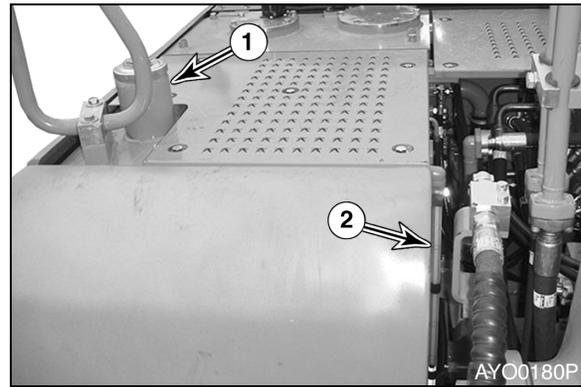

Figure 18
1. At end of each work day, fill fuel tank. Add fuel through fuel filler tube (1, Figure 18). When working at a temperature of 0°C (32°F) or higher, use ASTM No. 2-D or its equivalent. At temperatures below 0°C (32°F) use ASTM No. 1-D or its equivalent.
3. Check the amount of fuel in the tank by observing the fuel tank sight gauge (2, Figure 18).